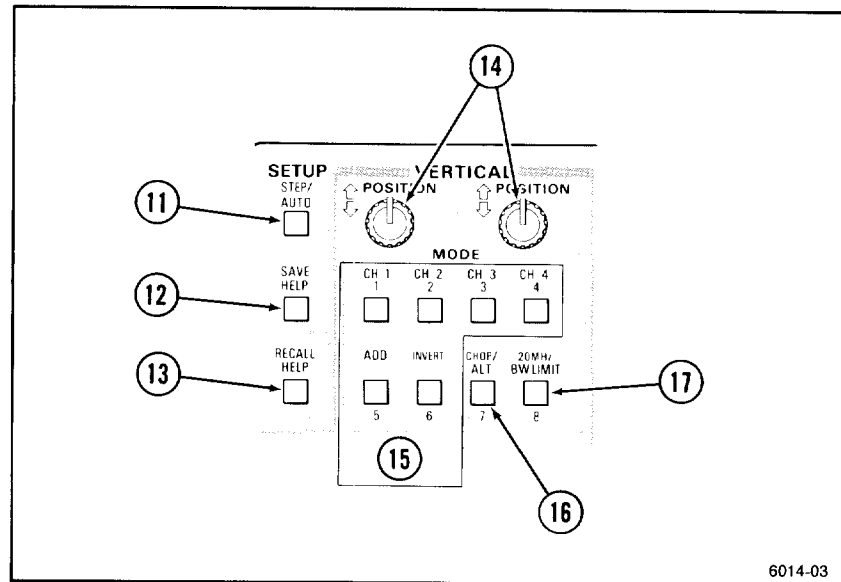

Figure 5-2. SETUP and MODE buttons, and CH 1 and CH 2 POSITION controls.
Refer to Figure 5-2 for the location of items 11 through 17.
- ⑪ **STEP/AUTO Button** Recalls the next step in a stored sequence of setups, if the STEP indicator is illuminated. If the STEP indicator is not illuminated, the oscilloscope automatically establishes triggering and scales the waveform display vertically and horizontally (AUTO).
- ⑫ **SAVE/HELP Button** Saves the current oscilloscope control settings in a numbered setup when followed by one of the setup-number buttons, 1 through 8, which are also the Vertical MODE buttons. Pushing the SAVE/HELP button replaces the top and bottom rows of the normal readout display with prompting and help messages. These help messages may be cycled through by repeatedly pushing the SAVE/HELP button. Additional setups are accessible by using Δ and STEP. For operational information, see the "Operation" section and Appendix B.
- ⑬ **RECALL/HELP Button** Restores previous oscilloscope control settings saved in a numbered setup when followed by one of the setup-number buttons. Pushing the RECALL/HELP button replaces the top and bottom rows of the normal readout with the user defined menu. Repeated operation of the HELP button produces a cycle of help messages. Additional setups are accessible by using Δ and STEP. For operational information, see the "Operation" section and Appendix B.